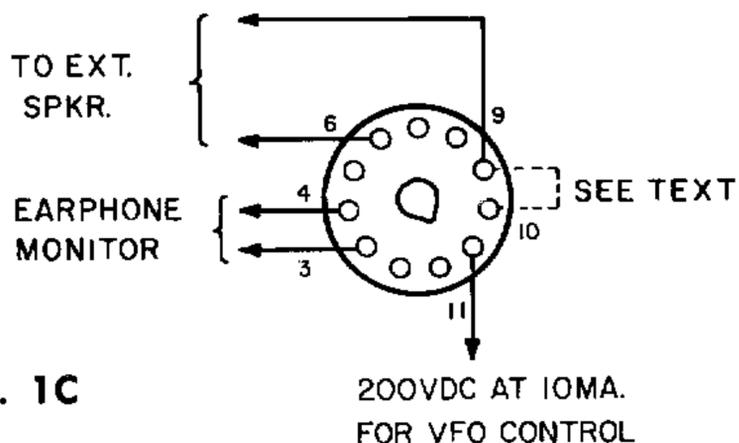

Fig. 1C
15. While speaking into microphone in normal operating voice adjust microphone gain control on rear of unit for proper modulation level. In the absence of a scope or other modulation monitor, the microphone gain can be set to that point where carrier level indicated on panel meter varies slightly with modulation. (Alternate microphone gain level can be adjusted by establishing QSO with another station and adjusting gain to the point where he reports proper modulation level. Preferably, the other station should be at sufficient distance so your signal is less than S9.) As a second alternate, modulation may be monitored locally by listening with headphones connected across pins #3 and #4 on the power cable connector socket at the rear of the 99'er (see Fig. 1C). Gain should be adjusted to just below that point where distortion becomes noticeable by ear.
Fig. 1C shows power cable connections for various auxiliary equipment. (See text (opposite)).